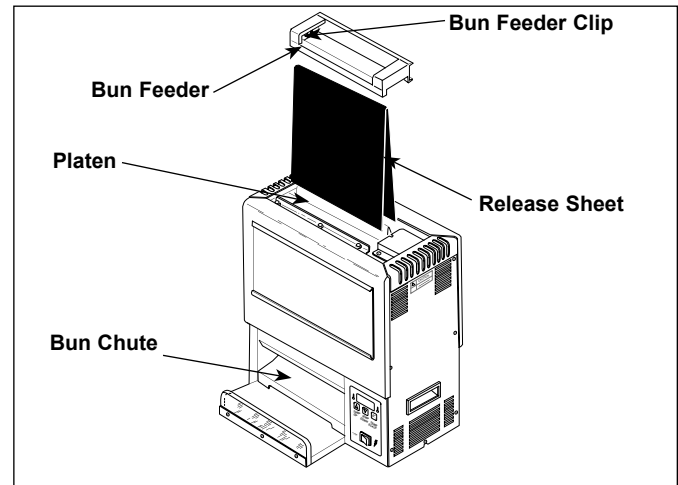
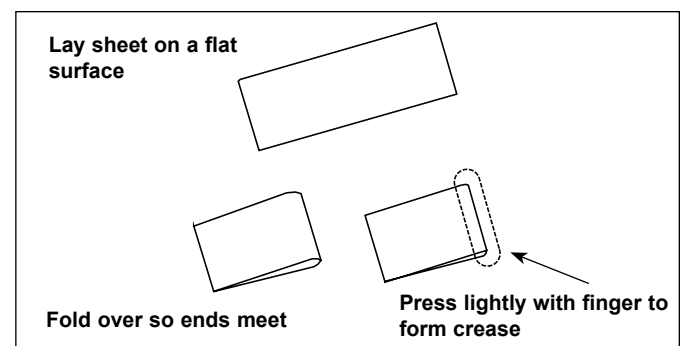

Figure 9. Removing/Installing Release Sheet
Figure 18. Folding Release Sheet
4. Remove the release sheet (Figure 9) and lay it on a clean, flat, dry surface. Spray McD® All-Purpose Super Concentrate (HCS) on a clean, dry towel. Wipe the towel firmly across the release sheet lengthwise over its entire surface. Immediately, repeat this procedure with a clean, dry towel dampened with KAYQUAT™ Sanitizer (HCS) solution and allow the release sheet to air dry. Turn the release sheet over and repeat this cleaning procedure on its' other side.
1. Fold a new release sheet in half, creasing the fold only with your fingers, (Figure 18 and place it over the platen. Allow the conveyor to draw it into place and verify that it is positioned properly (Figure 9, page 11).